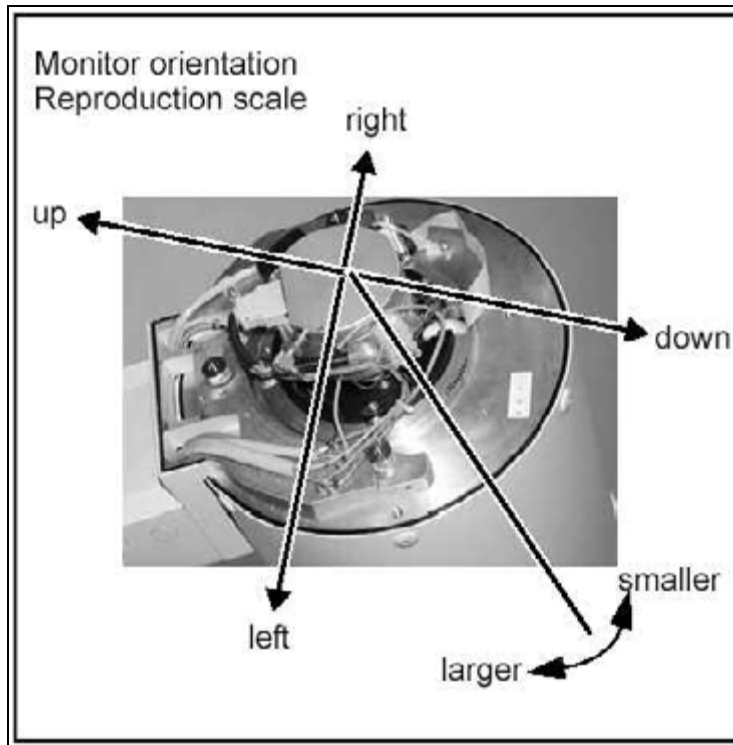

Fig. 15: Monitor orientation
4. You can increase/decrease the image by turning the entire camera ((Fig. 15 / p. 49)). Always turn it a full turn because the camera plugs should be in the same position.